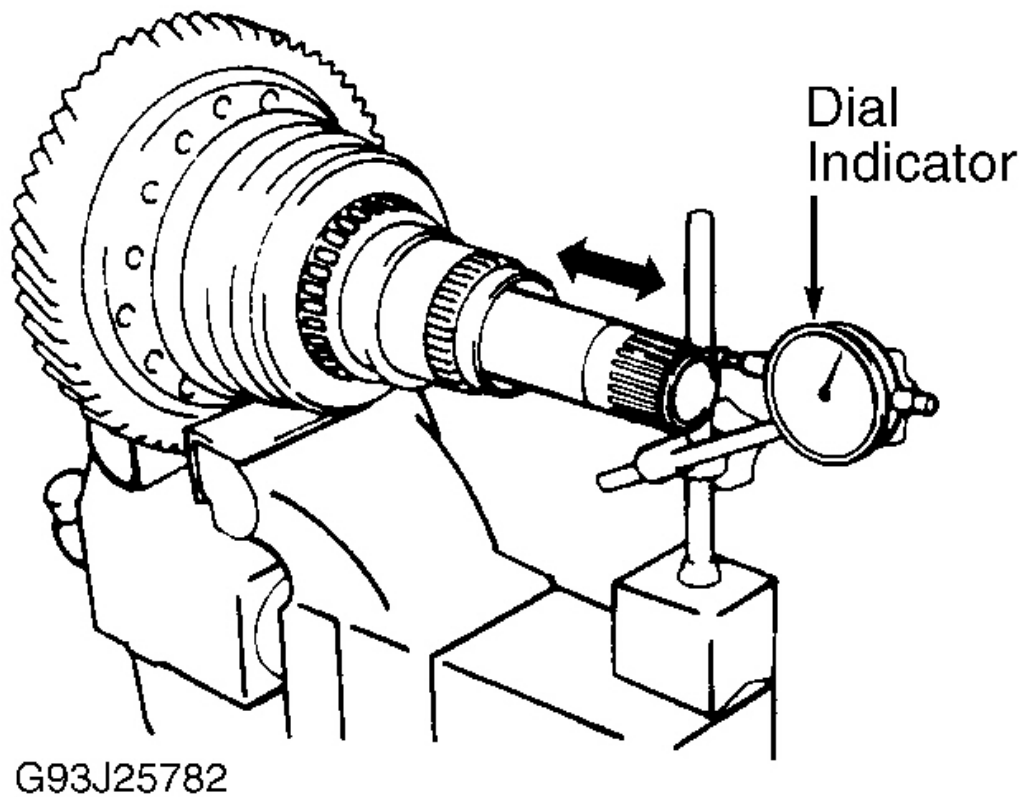

Fig. 58: Checking Differential End Play (A-540H)
1. Remove right case bearing outer race. See **Fig. 57** . Use a dial indicator to measure differential end play. End play should be .0071-.0323" (.180-.820 mm). See **Fig. 58** . Remove ring gear mounting case sleeve. Remove 4 oil seal rings from ring gear mounting right case. Remove snap ring and speedometer drive gear.